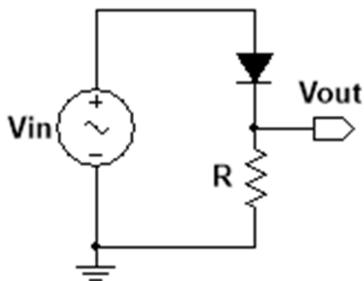

FIGURE 5. A rectifier circuit.
**2.6. Most Simplistic Diode Model: Constant Voltage Drop.** For many switching and rectification applications, it is sufficient to think of the diode as an ideal switch that turns on with a negligible dynamic impedance when forward-biased above a certain critical voltage,  $V_D \sim 0.7V$  for Si, while below the critical voltage it has no current flow (and thus infinite impedance). Let’s use this model to qualitatively understand the performance of the rectifier3 circuit shown in Fig. 5 where the resistance of the load is much greater than the forward biased dynamic impedance of the diode, but much less than the reverse biased dynamic impedance: